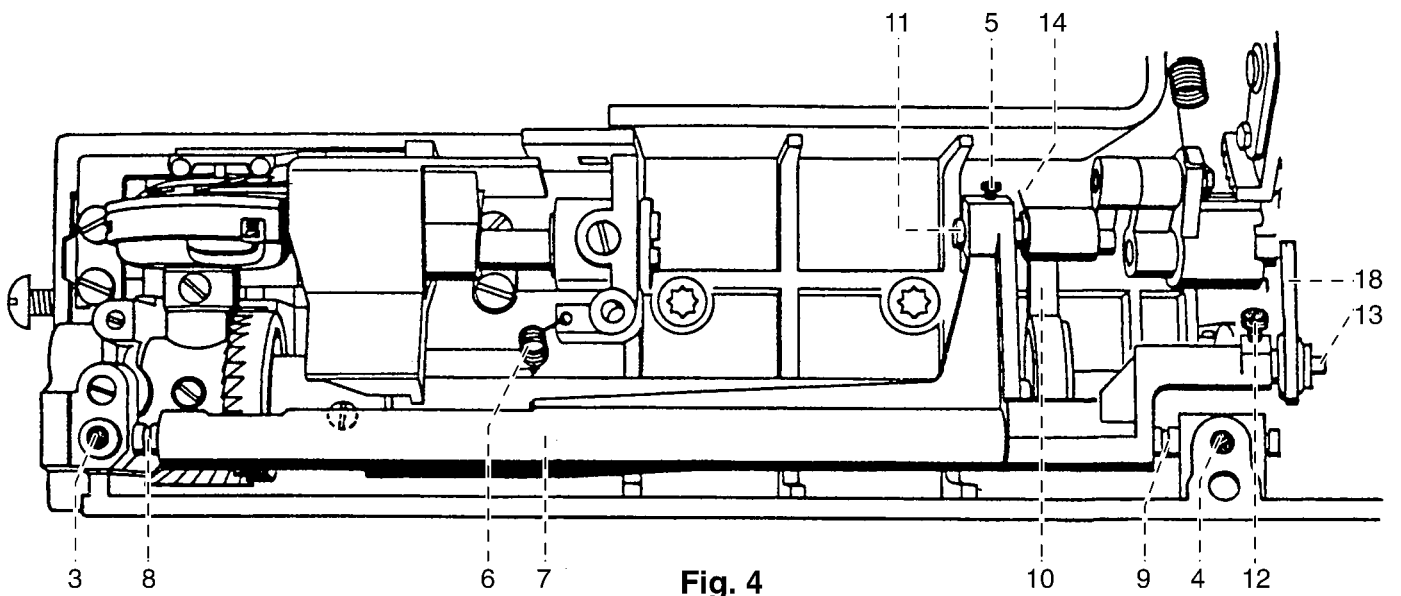

Fig. 4
- Fit bolt 13 with the washer located to the left of pull-rod 18, and ensure that it is free from play (fig. 4).